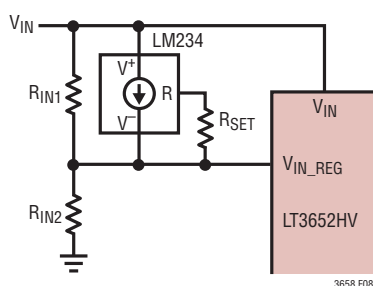

Figure 8. MPPT Temperature Compensation Network
In the circuit shown in figure 8,
As the temperature coefficient for V_{MP} is similar to that of V_{OC} , the specified temperature coefficient for V_{OC} (TC) of $-78\text{mV}/^\circ\text{C}$ and the specified peak power voltage ($V_{MP}(25^\circ\text{C})$) of 17.6V can be inserted into the equations to calculate the appropriate resistor values for the temperature compensation network in Figure 8. With R_{SET} equal to 1000Ω , then: